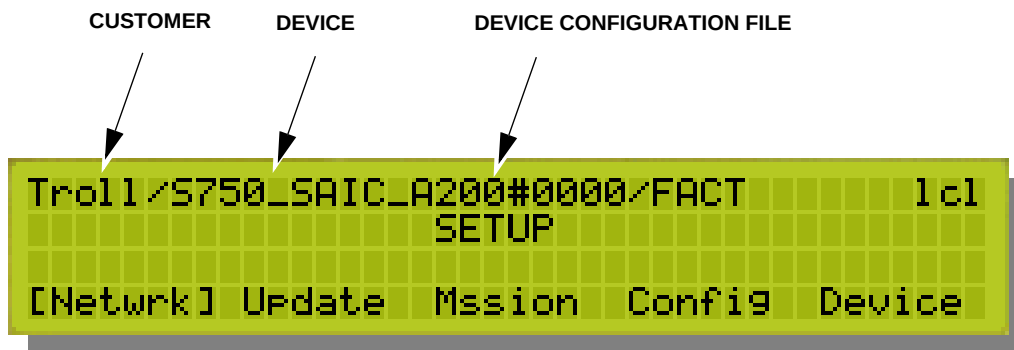

Figure 3-5. Setup Screen – Network Selected
1. Press the SET UP button on the S750 keypad. The display on the S750 should appear similar to the one shown in Figure 3-5.